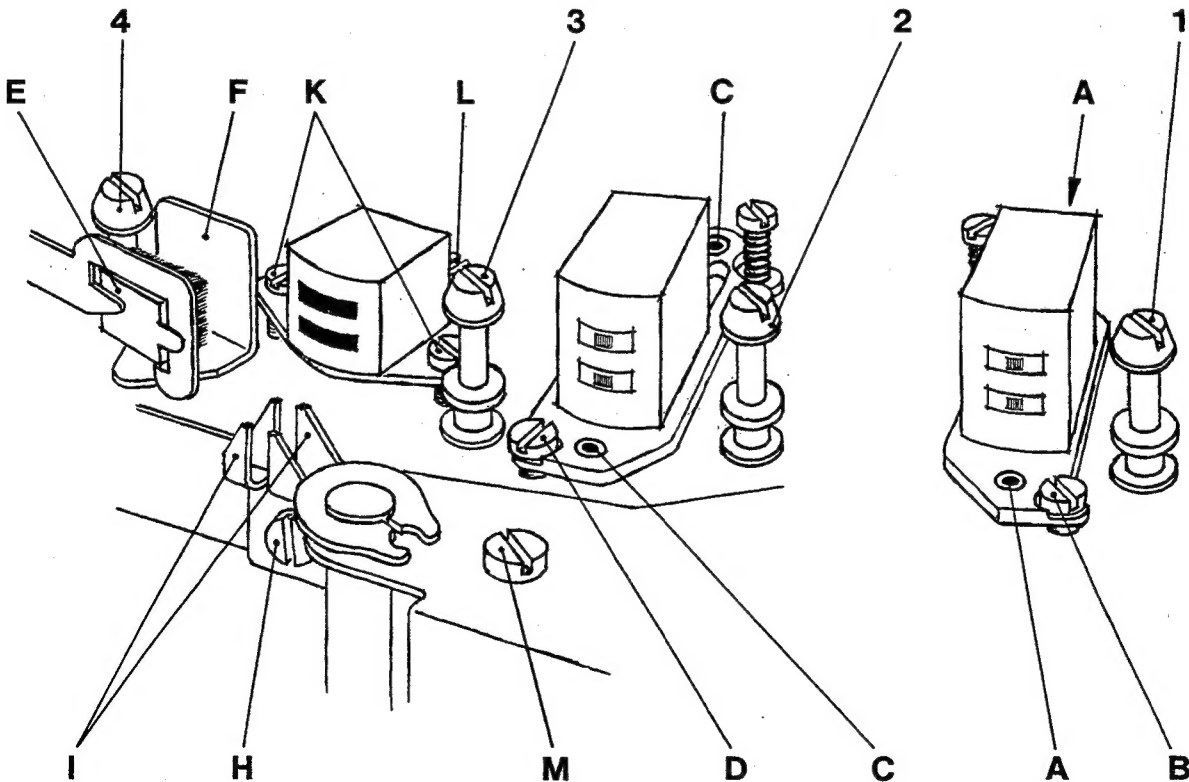
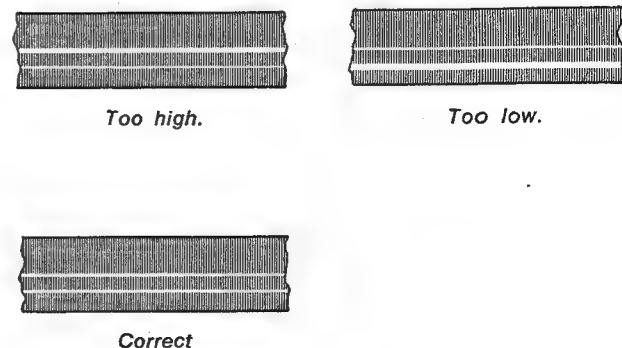

Fig. 4.1. Tape path adjustment screws.
Fig. 7.2. Track measurement of erase head.
Insert a new tape, and start the recorder in normal forward drive. Check visually that the tape appears to run parallel with the upper track of the record head, with a play of approx. 0.1 mm (4 mils). If necessary, adjust the height with screws (C) fig. 4.1, while endeavouring to maintain the headfront parallel to the tape.
Set the tape recorder in stereo record mode, and unscrew the locking screw (H) fig. 4.1, about $\frac{1}{2}$ turn. Connect a VTVM across each one of the record head halves. Move the bias head up or down by means of adjustment screw (M) for the highest possible reading on the voltmeter. Check that the tape runs freely in the groove in front of the bias head and that there is sufficient clearance between the bias head and the mounting plate for the record head. The height position of the bias head is not critical, and if the clearance between the bias head and the mounting plate for the record head is insufficient, raise the bias head slightly.
Connect a VTVM across each one of the record head-halves, and set the tape recorder for stereo recording. Insert a screwdriver in groove I, ref. fig. 4.1, and pull the bias head to the right. Then pull the bias head carefully by means of the screwdriver towards the left hand side. Induced voltage (bias) in recording head increases to a maximum. Continue pulling the head towards left side until the bias is reduced by 10–15% below maximum. When the position has been found, tighten the screw (H) while maintaining correct horizontal position of the head. Then recheck the output voltage. If a noticeable change has occurred, the horizontal procedure has to be repeated.
By visual inspection, check that approx. 0.25 mm (10 mils) of the upper half of the erase head is visible above the tape. Insert Tandberg test tape No. 9 and record a 400 Hz signal at $7\frac{1}{2}$ ips well above normal level on channel R (track 3). Dip the tape in a solution of fine grained iron oxide powder and alcohol (Magna See solution). Check that the recorded track is positioned in centre of the erased track. Make sure that no parts of the adjacent tracks are erased, see fig. 7.2. If necessary, adjust the height of the erase head by means of the screws (K) and (L) ref. fig. 4.1, and repeat the above check.
Check that the head front of the erase head is perpendicular to the mounting plate. If necessary, adjust azimuth position by means of the screws (K) ref. fig. 4.1. This adjustment is not critical.
The height of the playback head is aligned by the height adjustment screws (A), ref. fig. 4.1. The upper edge of the tape shall run flush with the upper part of the head lamination for channel L.
Set OUTPUT selector to position STEREO. Play back a standard azimuth alignment tape with a VTVM connected to each output. Adjust the position of the playback head by the azimuth adjustment screw (B) ref. fig. 4.1, until maximum reading is obtained on the output meters.
The height of the erase head is aligned by the height adjustment screws (K and L) ref. fig. 4.1. Approx. 0.25 mm (10 mils) of the ferrite core for the upper track of the erase head should be visible above the tape.
Insert a full-track prerecorded tape and record a 1.000 Hz signal from a generator, well above optimum recording level in mono on track 3 (channel R). Cut the tape and dip it into the Magna See solution. Check that the prerecorded track is in the centre of the erased area, ref. fig. 7.2. Adjust the vertical position of the erase head if necessary.
The height of the erase head is aligned by the adjustment screws (K and L) ref. fig. 4.1. Record a 1.000 Hz signal in stereo well above optimum recording level on a full-track prerecorded tape. Dip the tape in the Magna See solution and check that the tracks are distributed symmetrically across the tape. Readjust the erase and the record heads, if necessary.